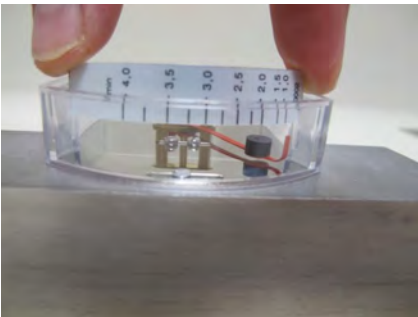

Fig. 64
15. ➤ Slide the scale holder (with the affixed scale) into the guide of the plastic housing. (Fig. 64). Note direction of flow (lower scale value toward the input side of the device).